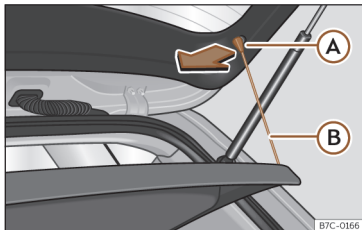

Fig. 175 In the boot: removing and installing the shelf.
- Detach the cord loops >>> **Fig. 175** (B) from their hooks (A).
- Attach the securing straps >>> **Fig. 175** (B) onto the rear lid.